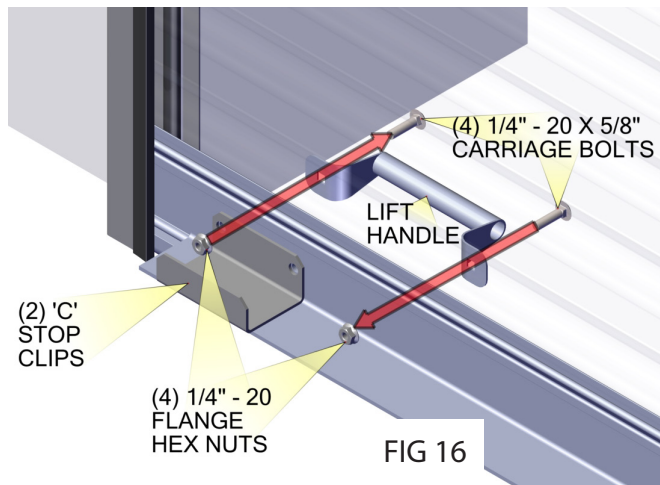

FIG 16
• For doors with an aluminum bottom bar, a 'C' stop-clip will need to be installed. Only one bolt is required to secure the stop-clip to the bottom bar when attaching a lift handle on that side. Repeat assembly procedure for both sides. See FIG 16.